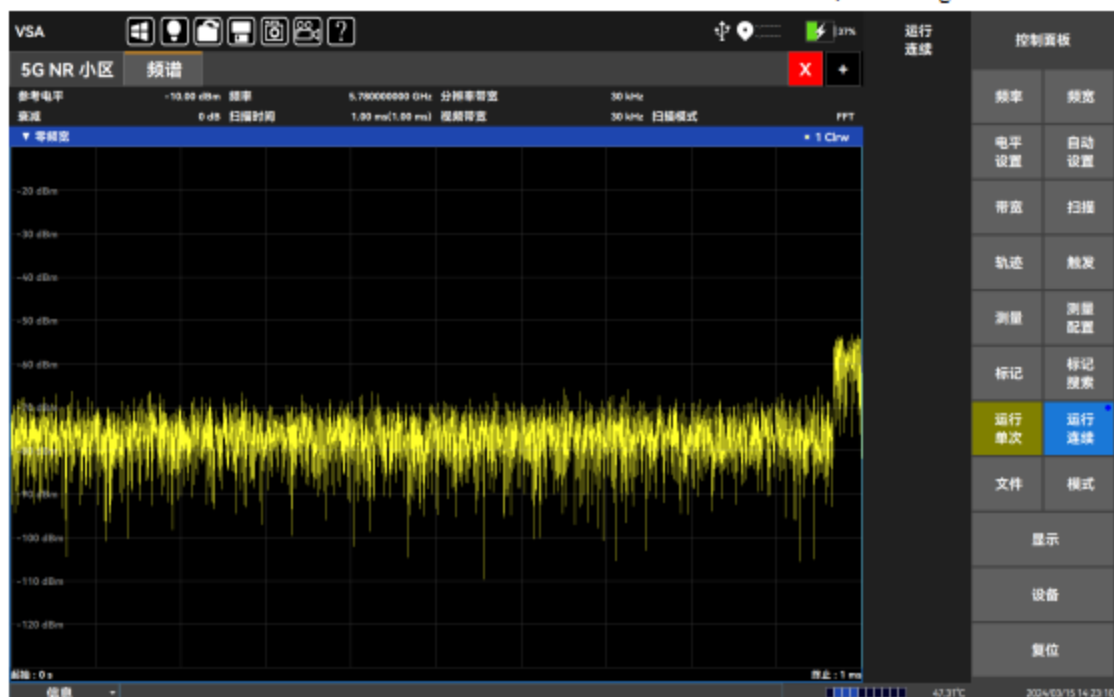

Figure 5.18 Measurement results
- Step 4. Observation, as shown in Figure 5.18: